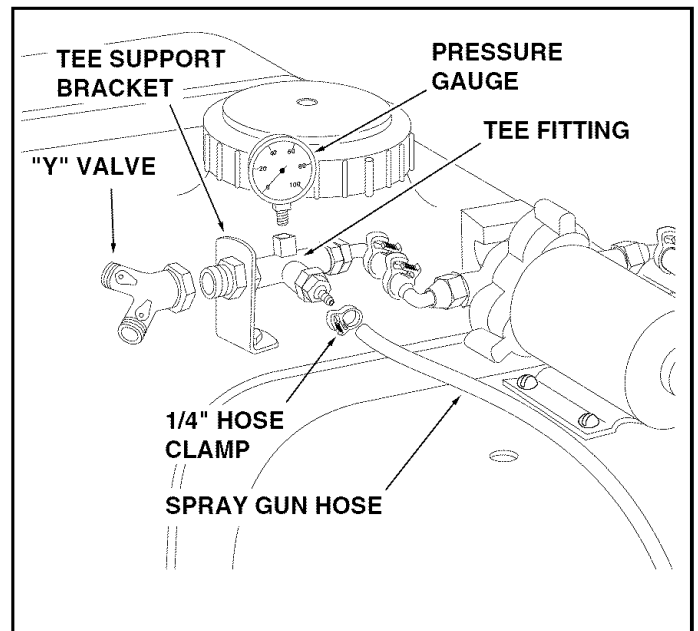

FIGURE 14
26. Carefully screw the "Y" valve fitting onto the fitting attached to the tee support bracket. The valve levers should face up. See figure 14.
27. Carefully screw the pressure gauge into the top of the tee fitting as shown in figure 14.
28. Place the 1/4" hose clamp over the end of the spray gun hose. Push the hose onto the hose barb on the front of the tee fitting. Secure the hose to the barb with the hose clamp. See figure 14.